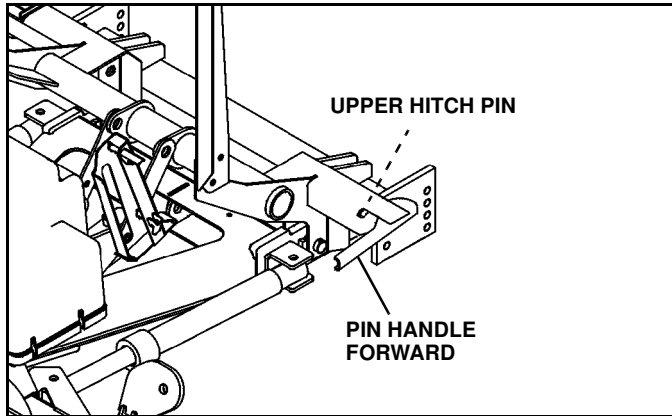
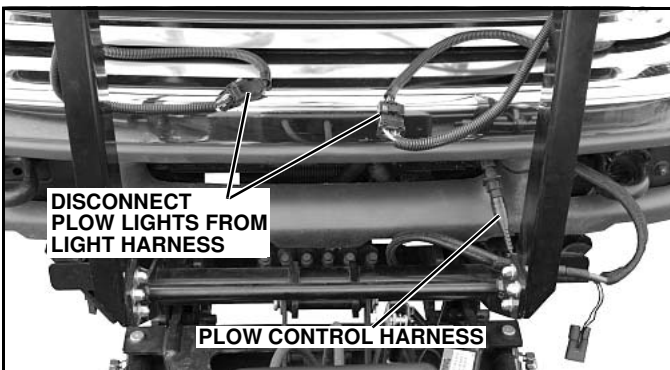

Figure 1-21
Figure 1-26
4. Put plow into float position by turning down pressure off. Rotate pin handles forward to lock upper hitch pins in place. (See Figure 1-21).
2. Disconnect the plow lights from the truck light harness (See Figure 1-26). Disconnect the plow control harness and replace the protective cap. (See Figure 1-21 or 1-22).